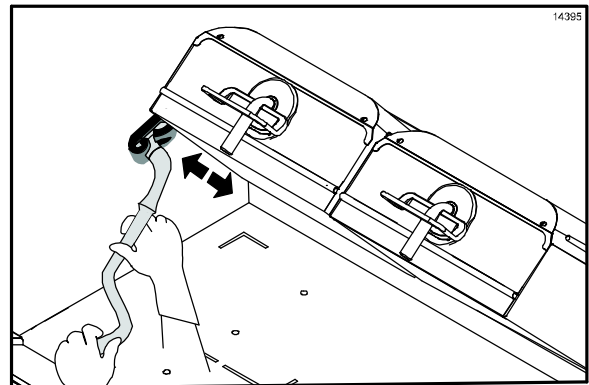

Figure 83
- Apply the grill cleaner to the outer edges of the right and left platens. (See Figure 83.)